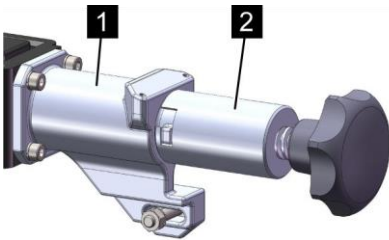

Fig. 156: Clamping device
9. ➤ Remove clamping device (Fig. 156/2) from the holder (Fig. 156/1).